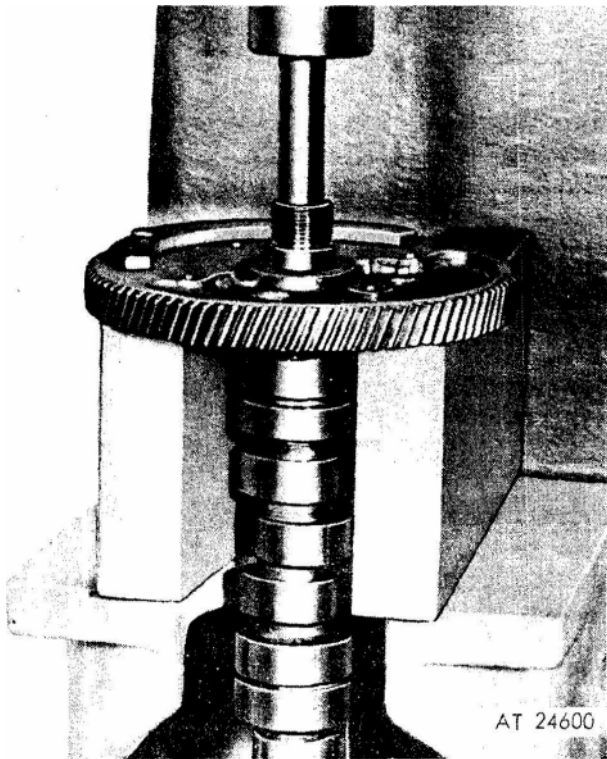

Figure 1. Removing camshaft gear.
The camshaft and balance shaft gears on an In-line engine are located at the flywheel end of the engine, and mesh with each other and run at the same speed as the crankshaft; see figure 1, section 1.7.2. Since the camshaft and balance shaft gears on In-line engines must be in time with each other, timing marks are stamped on the rim of both gears. Also, since these two gears as a unit, must be in time with the crankshaft, timing marks are located on the idler and crankshaft gears. See figure 1, section 1.7.2. The camshaft and balance shaft gears are keyed to their respective shafts and held securely against the shoulder on the shaft by a nut. A gear nut retainer, with a double hexagon hole in the center, fits over the nut, and prevents loosening of the nut. The retainer is attached to the gear by bolts threaded into tapped holes in the gear. External weights are attached to the rear face of each gear. The weights are important in maintaining perfect engine balance. When new gears are used the external weights on the old gears must be transferred to the new gears. If the weights are transferred to new gears, tighten the bolts to 45-50 lb-ft torque.
2. Place the camshaft and gear assembly in an arbor press with the gear suitably supported, as shown in figure 1.